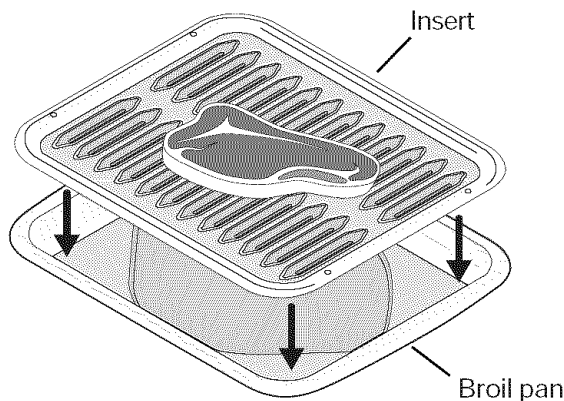

Fig. 1
- Use the recommended pans and oven rack positions for the type of meat being prepared - *p.23 Figs. 1, 2 & 3-*.
The broil pan insert (if equipped) contains slots that allows grease from the meat to drain into the broil pan. Place prepared meat on broil pan insert and then place onto broiler pan as shown -Fig. 1.